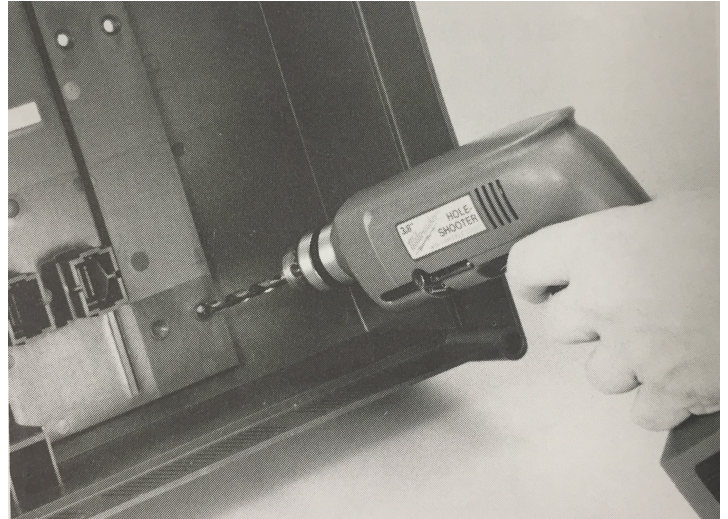

Figure 5. The inside of the breaker cover, showing the mounting holes being drilled.
3. Drill four 1/4-inch (0.234 inch) holes through the cover, as shown in Figure 5.